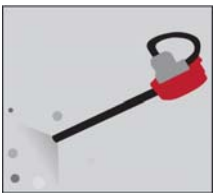

Figure 1:
1. Clean intended application area thoroughly. All loose particles, sand, dust, etc. must be removed. *See Figure 1.* Utilize a power blower or compressed air if available, otherwise sweep thoroughly.